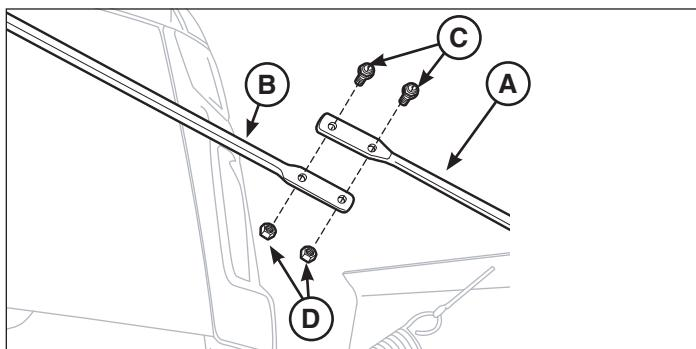

Figure 17
4. Attach the lower portion of the control arm (**A**, Figure 17) to the upper control arm (**B**) using the 1.00" cap screws (**C**) and lock nuts (**D**).